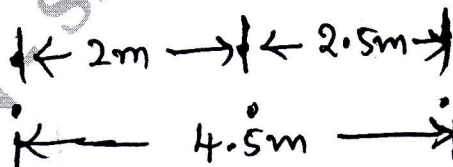

Fig Q4(b)
- b. A 3phase, 50Hz, 66kV overhead line conductors are placed in horizontal plane as shown in Fig Q4(b)